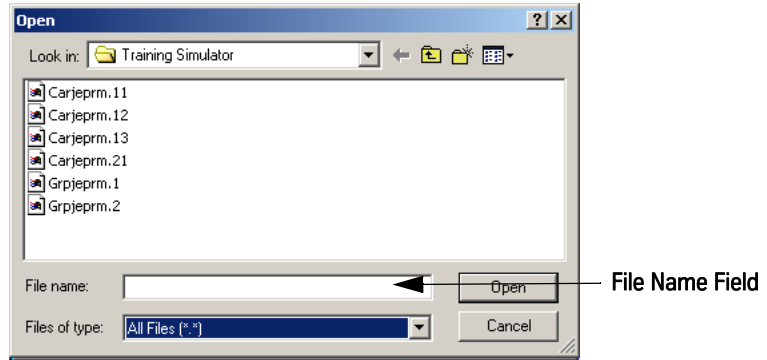

Figure 21 - Transfer Door Profile to Computer File
- Click Default. The Open window displays. See Figure 21.
- c. Browse to a location for the file and give it a name in the File Name field. See Figure 21.